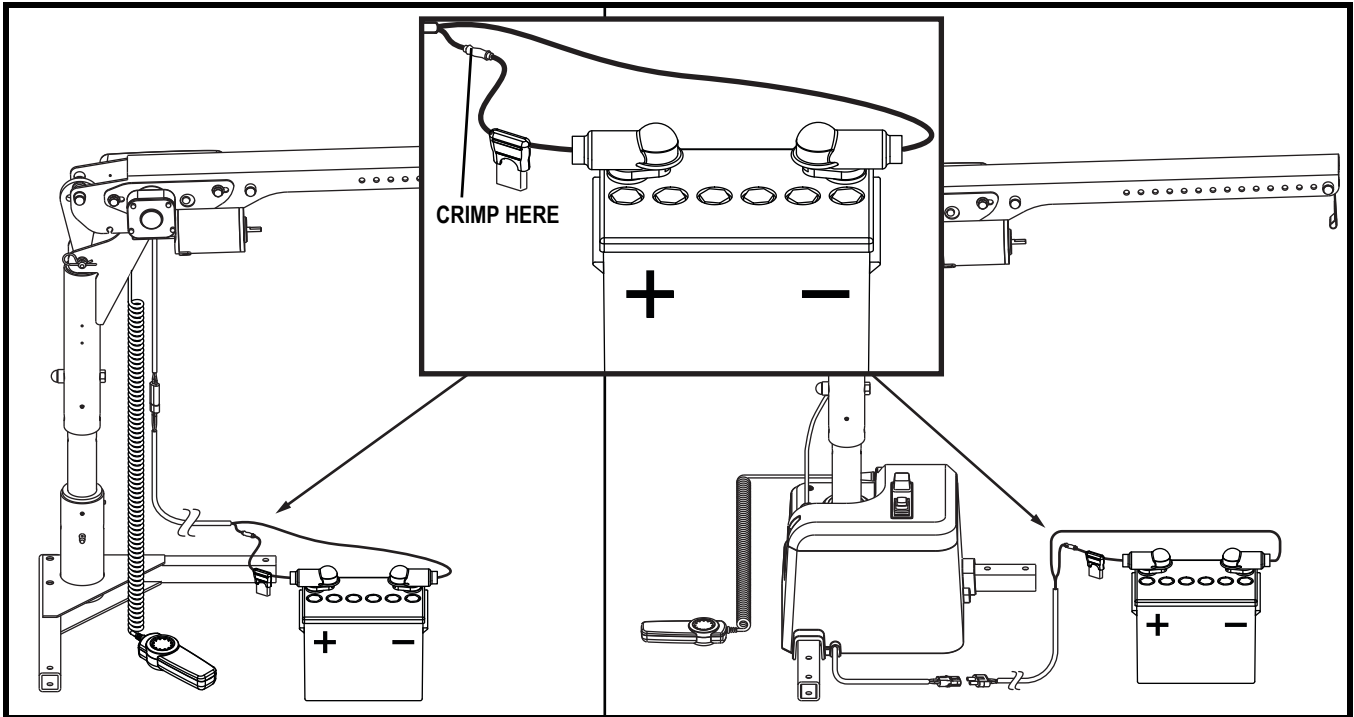

Figure 5. Electrical Wiring Connections
1. Route the hard wire kit (starting at the lift) through the interior of the vehicle until you reach the automobile battery. See **figure 5**. Conceal the wire behind or under the interior panels. Be certain that the wire is protected with a rubber grommet when passing it through the metal panels and into the engine compartment. Inside the engine compartment, secure the wire to the firewall and the inner fender with the supplied plastic wire ties. Use care not to cause abrasions to the power wire. It is important to secure the power wire at various points along its run.